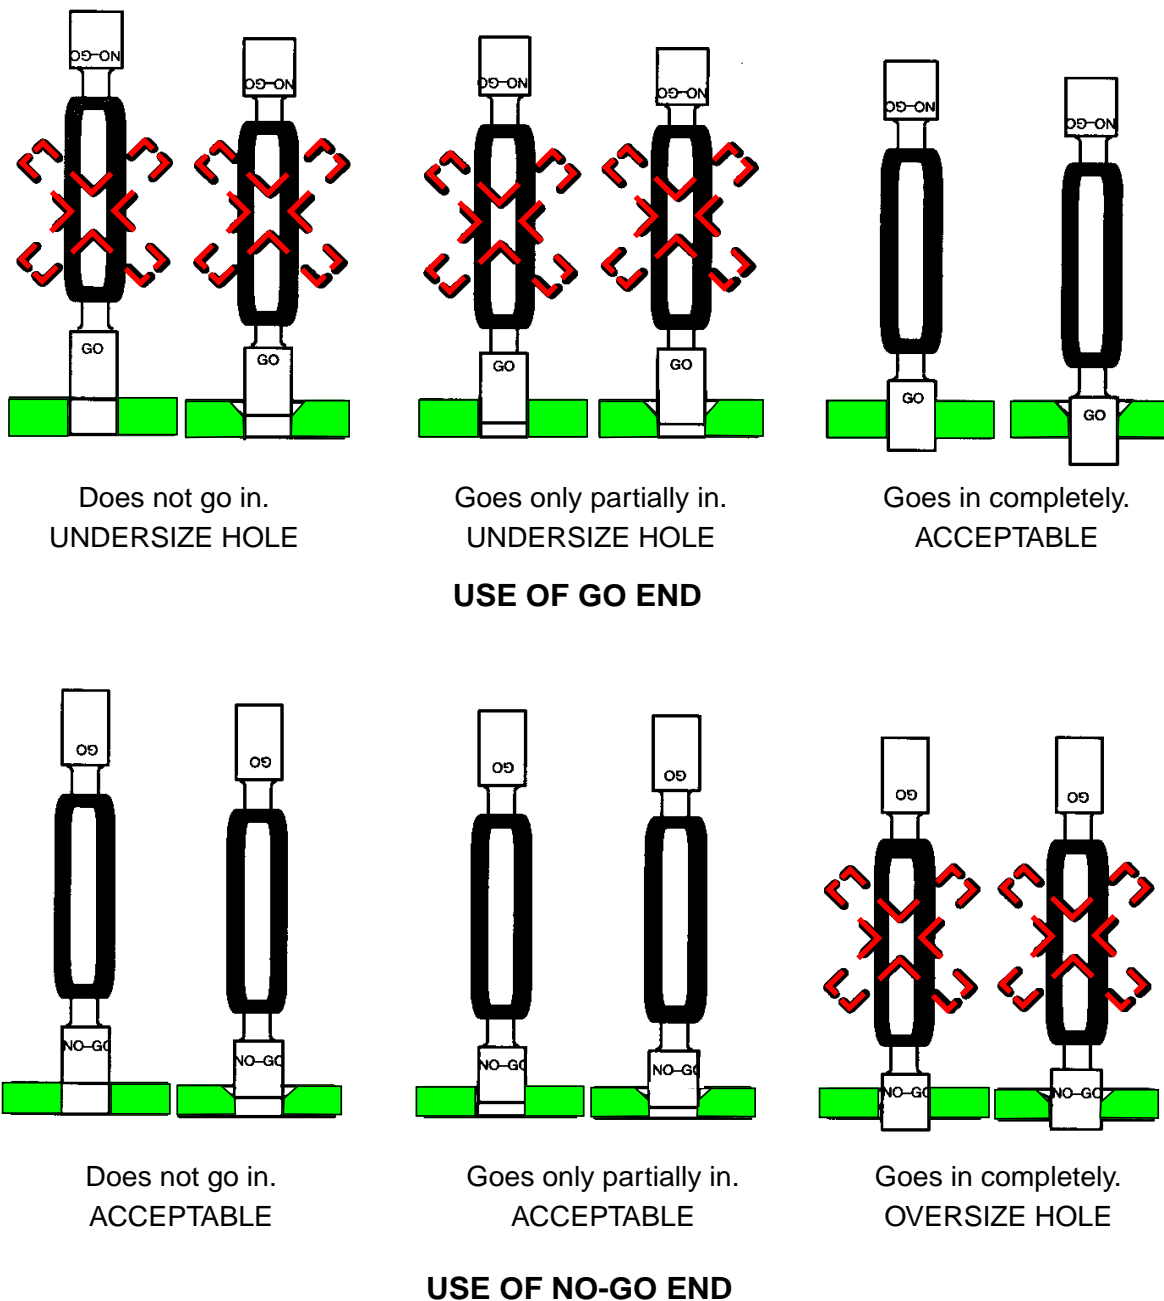

Figure 3 - Use of Go/No-Go Gauges
- 5.3.1 Check selected fastener holes for conformance to the requirements of Table 4 using the applicable GO/NO-GO gauge as follows (see Figure 3):